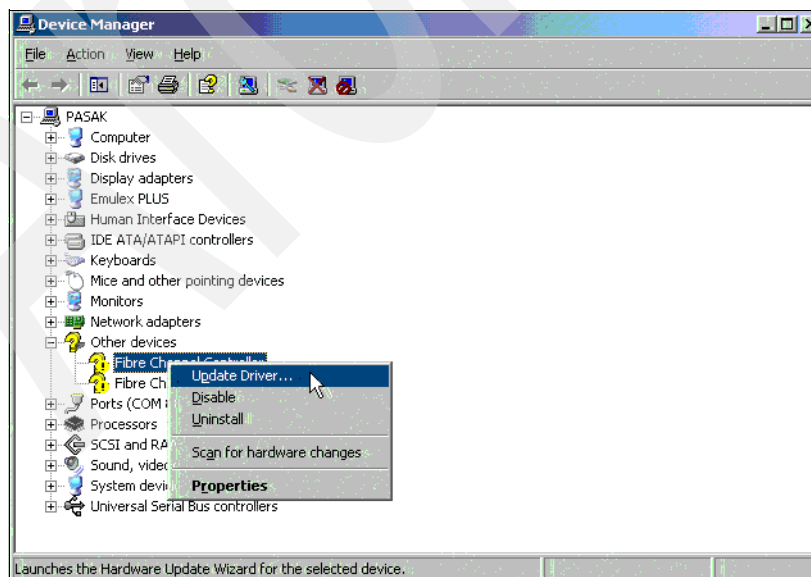

Figure 25-2 Update Driver
2. Open Windows Device Manager. Right-click one of the yellow question marks and select **Update Driver** (Figure 25-2).